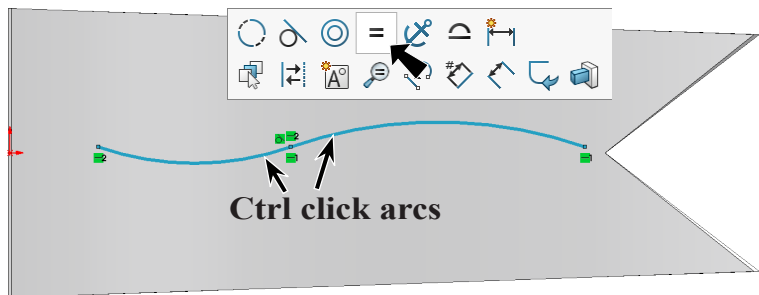

Fig. 28
Step 9. **Ctrl click both arcs** to select both. Release Ctrl key and click **Make Equal** on the context toolbar, Fig. 28.
Step 10. Click **Smart Dimension** (S) on the Sketch toolbar.